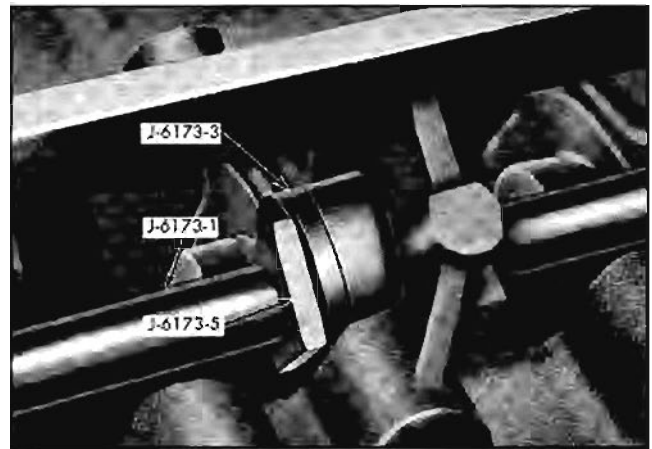

Fig. 6-45 Tools Positioned for Bearing Installation
5. Position Replacer Adapter J-6173-3, with bearing in position against shoulder, against rear of hole in which bearing is to be installed (Fig. 6-45). Index mark on shoulder of Replacer must point toward crankshaft to properly position bearing.
7. Slip key J-6173-5 into notches in shaft behind Replacer Adapter J-6173-3 and tighten nut to start bearing into hole (Fig. 6-45). Continue to tighten nut until bearing has been pulled completely into its hole. When properly positioned, it will be approximately flush with both sides of the transverse member.